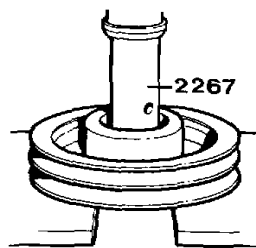

Fig. 188.
4. Press the bearings out of the belt pulley with the drift, 2267 (fig. 188).